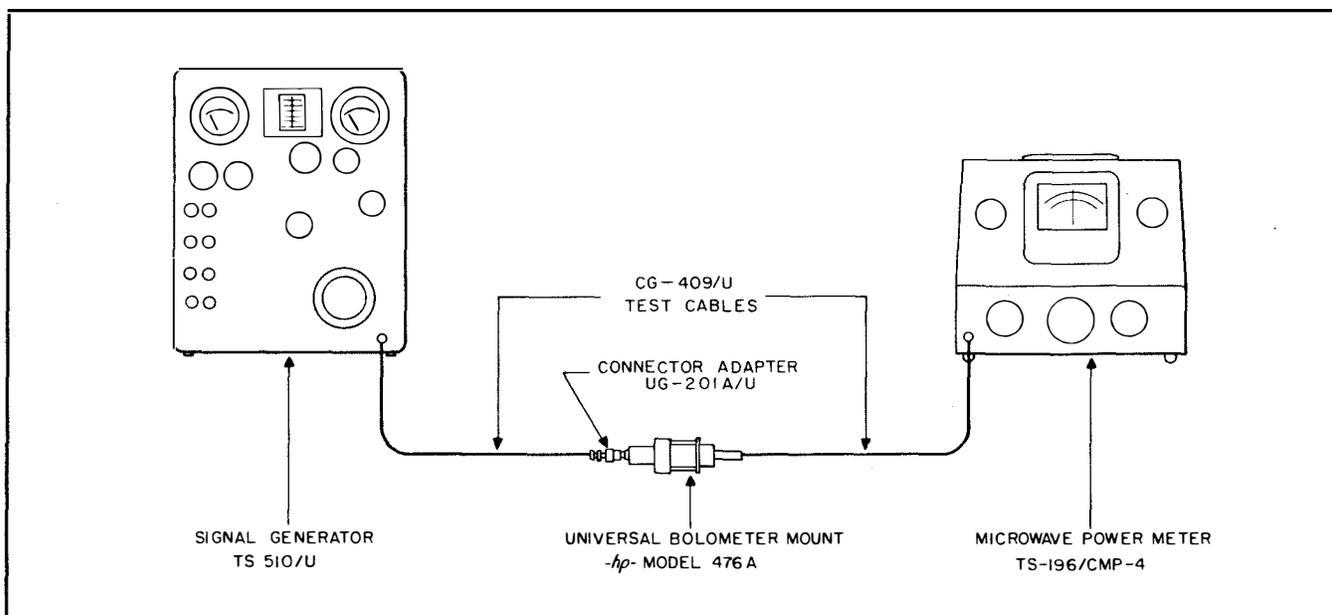

Figure 6-7. Test Set-Up for Calibrating the R-F Output Attenuator Dial
f. Connect power meter TS-196/CMP-4 or equivalent through a bolometer mount such as the Hewlett-Packard Co. Model 476A to the RF OUTPUT jack as shown in Figure 6-7.
detector circuit will also affect the frequency response of the power monitor which must then be checked and, if necessary, readjusted. To calibrate the OUTPUT VOLTS meter refer to Figure 6-7 and proceed as follows:
b. Connect a power meter and bolometer mount to the RF OUTPUT jack as shown in Figure 6-7.